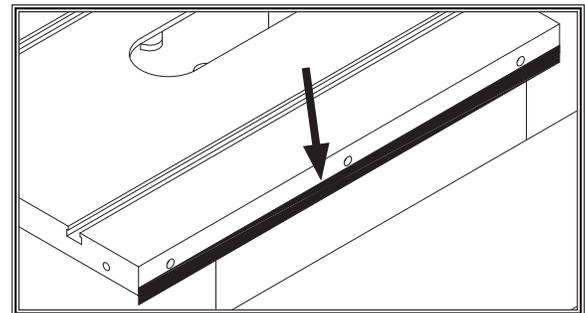

Figure 22. Masking tape location for tilting extension wing up.
- If outside end of extension wing tilts down, place a strip of masking tape along bottom edge of main table to shim end of extension wing up (see **Figure 22**).